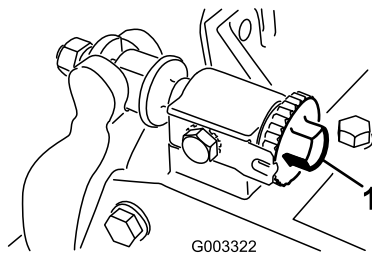
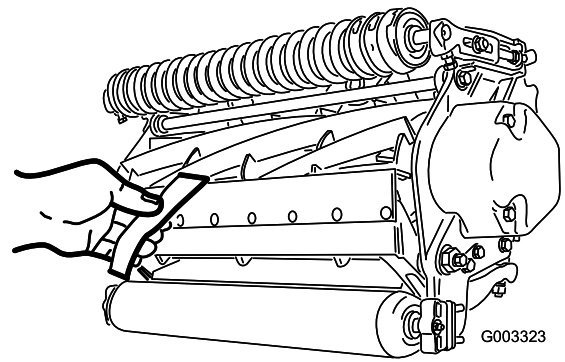

Figure 11
Figure 12
1. Position machine on a flat, level work surface. Make sure reel contact is removed by turning bedbar adjusting screws counterclockwise (Figure 11).
Important: Make sure nuts on back end of bedbar adjusting screws are not resting on the work surface (Figure 11).
3. At one end of reel, insert a strip of newspaper between reel and bedknife (Figure 12). While slowly rotating reel forward, turn bedbar adjusting screw (Figure 11) clockwise (on same end of reel, one click at a time, until paper is pinched lightly, when inserted from the front, parallel to the bedknife. A slight drag will be noted as the paper is pulled.
5. After adjustment is accomplished, check to see if reel can pinch paper when inserted from the front and cut paper when inserted at a right angle to the bedknife (Figure 12). It should be possible to cut paper with minimum contact between the bedknife and the reel blades. If excessive contact/reel drag is evident it will be either necessary to back lap or regrind the cutting unit to achieve the sharp edges needed for precision cutting (Refer to the Toro manual for Sharpening Reel and Rotary Mowers, Form No. 80-300PT).